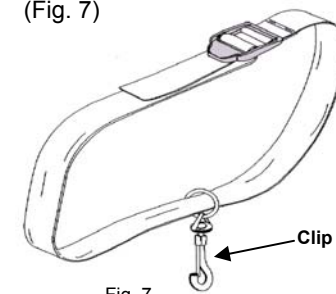

Fig. 7
3. Fully extend the shoulder strap. (Fig. 7)